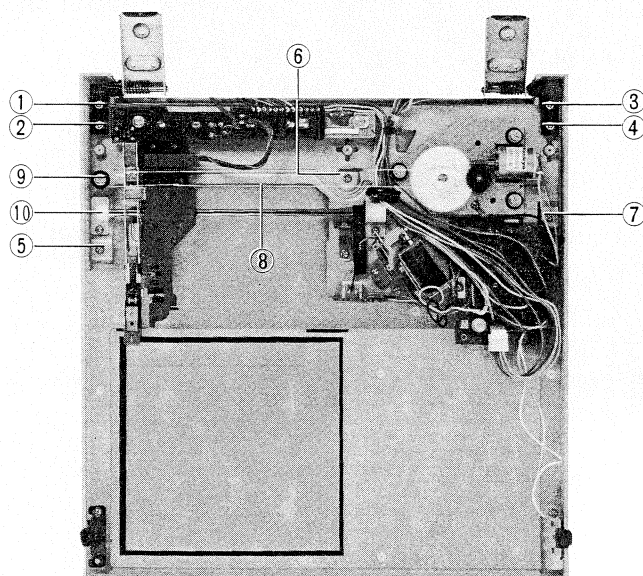

Fig. 7
5-(3) Removal of mechanism base ass'y (Fig. 7)
1. Remove the securing screws ① - ④ of the right and left hinges.
2. Remove securing screws ⑤ - ⑦, then take out the mechanism cover.
5-(4) Removal of tonearm ass'y (Fig. 7)
1. Remove carrier rope ⑧ from roller ⑨.
2. Remove shaft bracket ⑩, then take the tonearm off the shaft (arm rail).